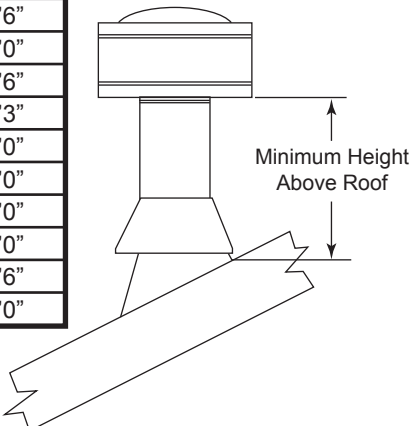

Fig. 44 Minimum Height Above Roof Requirements
10. Tighten the tabs of the collar. Secure the support collar by inserting three (3) #8 x 1/4" sheet metal screws through the support collar and the outer wall of the pipe.
11. Add lengths of pipe and firestop as necessary until assembly extends to a point above the roof which complies with local code requirements for minimum termination height and with the appliance manufacturer's installation instructions. (Fig. 44)